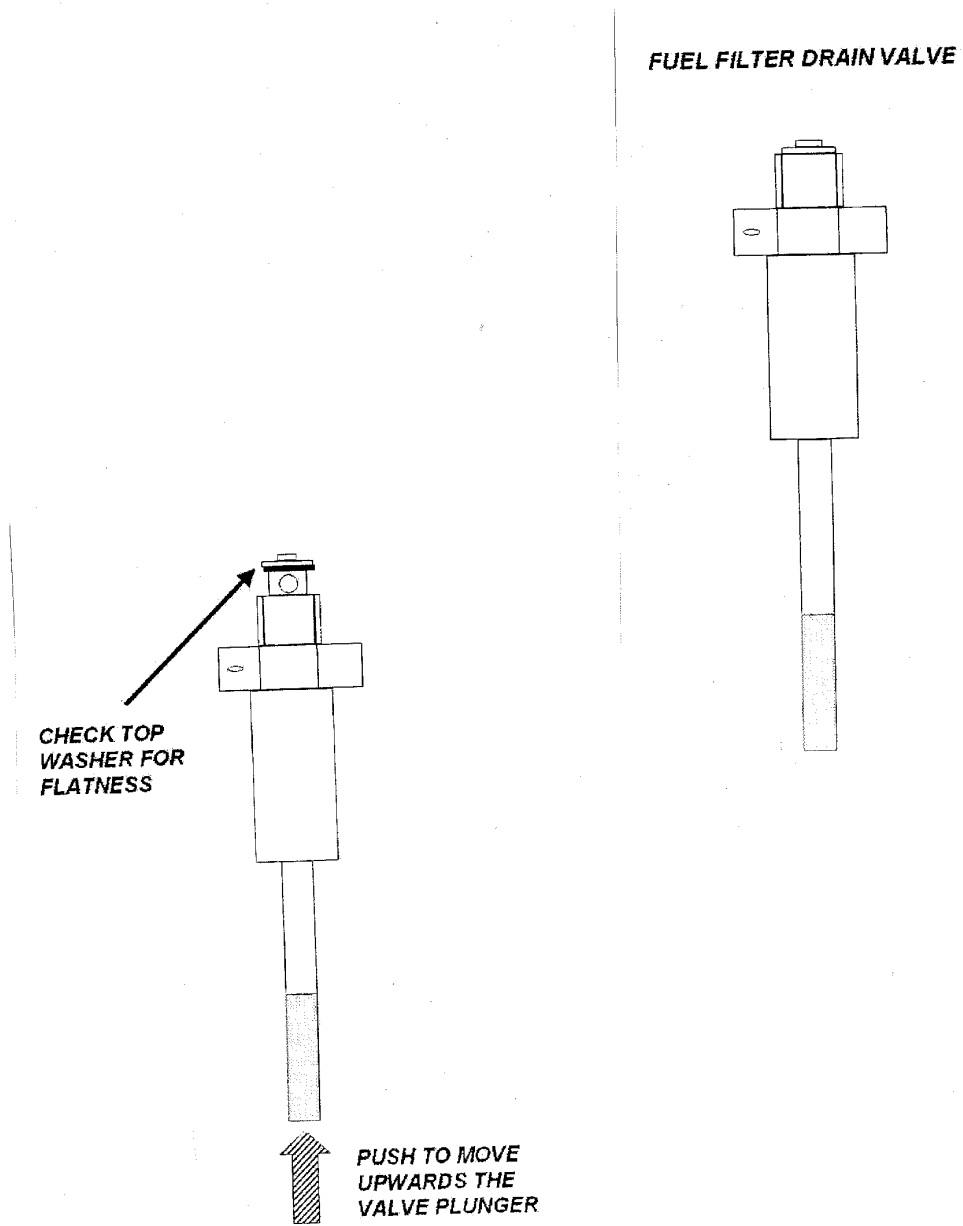

Fig. 203 - Fuel Filter Drain Valve - Check
- (1) Fasten the drain valve (2) to the wing spar with the clamp (5).
- (2) Connect the nut (3) of the adapter (4) to the fuel filter drain line (1).
- (3) Install the upper nacelle panels 410AT and 420AT (Refer to Chapter 54-10-00).
- (4) Make sure the electrical power is available (Refer to Chapter 24-00-00).
6. Fuel Filter Drain Valve - Check(Ref. to Fig. 203)